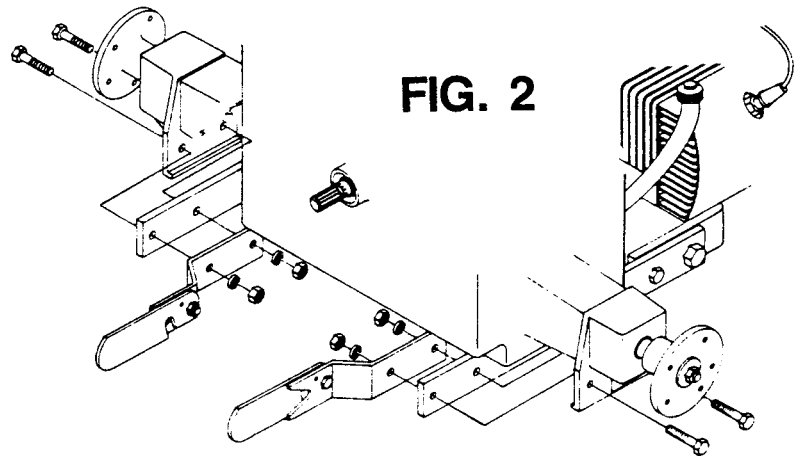

FIG. 2
- Attach the rear axle latches to the rear axle. **The rear axle latches must be purchased from your Gravelly dealer. Axle Latch Kit Part No. 19768.** First remove the  $\frac{1}{2}$ —13 x  $1\frac{1}{2}$  capscrews holding the hitch to the rear axle. Attach the rear axle brackets and the hitch to the rear axle using two  $\frac{1}{2}$ —13 x 2 hex head capscrews, nuts and lockwashers. Both sides as shown in FIG. 2.